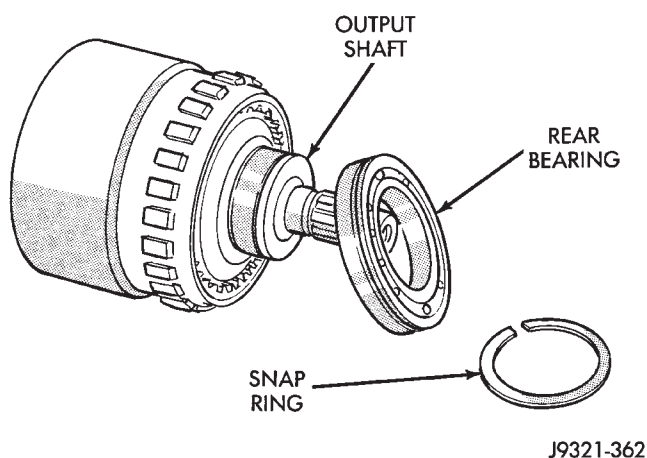

Fig. 205 Rear Bearing Removal
(7) Remove snap ring that retains rear bearing on output shaft.
(8) Remove rear bearing from output shaft (Fig. 205).